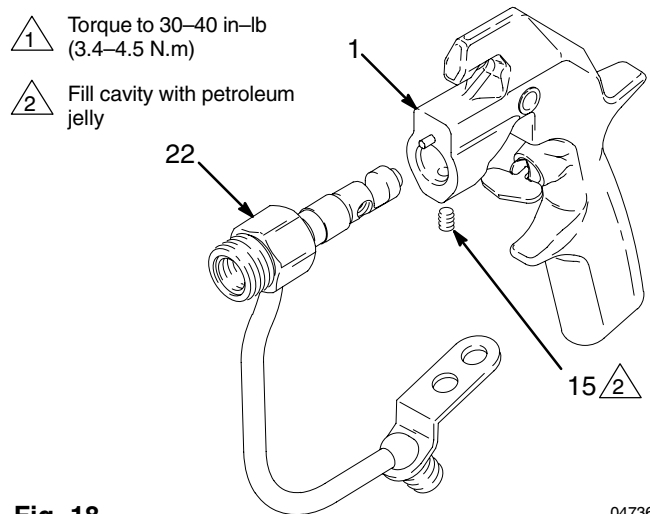

Fig. 18 04736
6. Push the fluid housing (22) onto the gun body (1) until fully seated. Tighten the setscrew (15) to 30–40 in-lb (3.4–4.5 N.m). Fill the setscrew cavity with petroleum jelly. See Fig. 18.